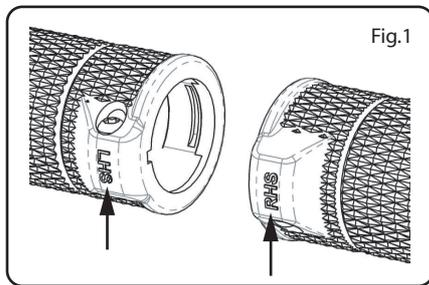

Fig.1
4. Ensure you have the correct side grip as they are handed. This is designated by LHS or RHS moulded into the grip. (Fig.1)